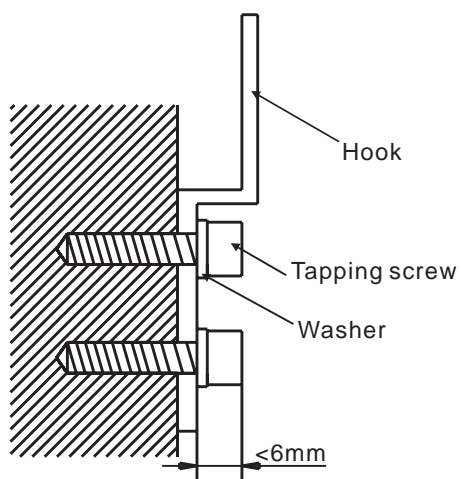

Fig. 4-8
1. Fix the hook with tapping screw onto the wall. (Refer to Fig. 4-8)